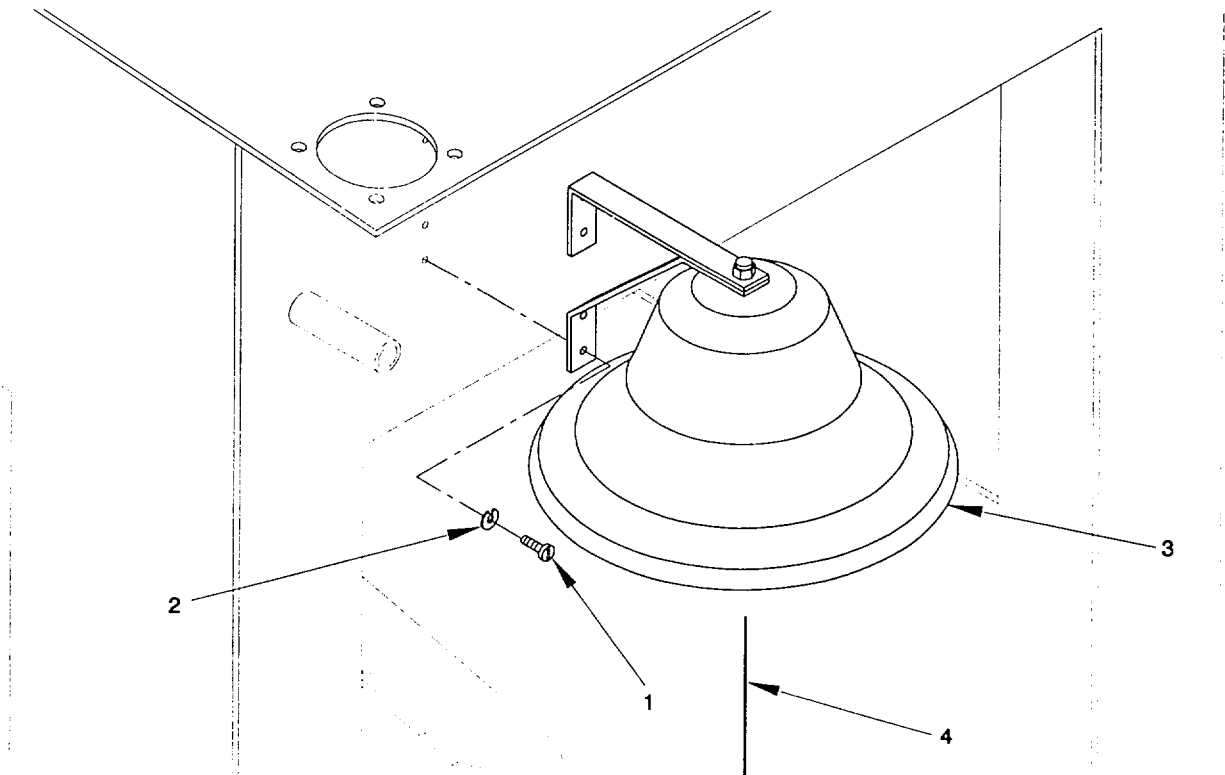

Figure 2-102. Navigation Bell, Remove/Install.
a. Remove. (figure 2-102)
- (1) Remove the four pan head capscrews (1) and four lock washers (2) securing navigation bell (3). Remove navigation bell (3).
- (2) Remove rope (4) from navigation bell (3).
b. Install. (figure 2-102)
- (1) Apply antiseize compound to threads on pan head capscrews (1).
- (2) Install rope (4) on new navigation bell (3).
- (3) Position navigation bell (3) on cab. Secure with four pan head capscrews (1) and four lock washers (2).